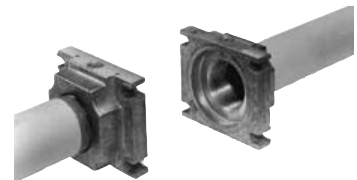

Fig. 3
1. Mount flange onto tube lines. Use appropriate sealing agent (see Fig. 3)